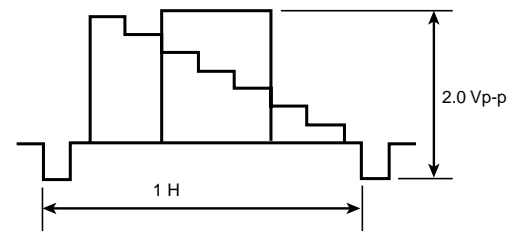

Figure 10.
4. Adjust VR7001 for video input level as shown in Figure 10 to 2.0Vp-p.